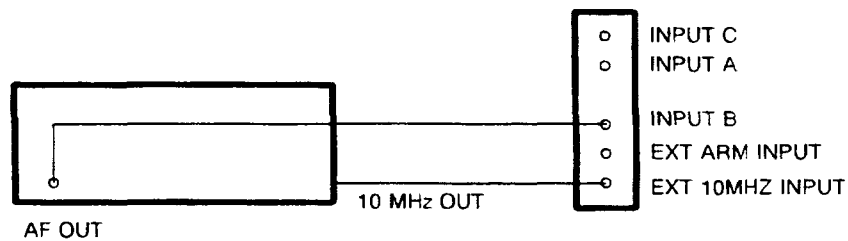

Figure 5-3. Input B Low Frequency Sensitivity Test Configuration
- Connect the Function Generator to the VX4223 as shown in Figure 5-3.